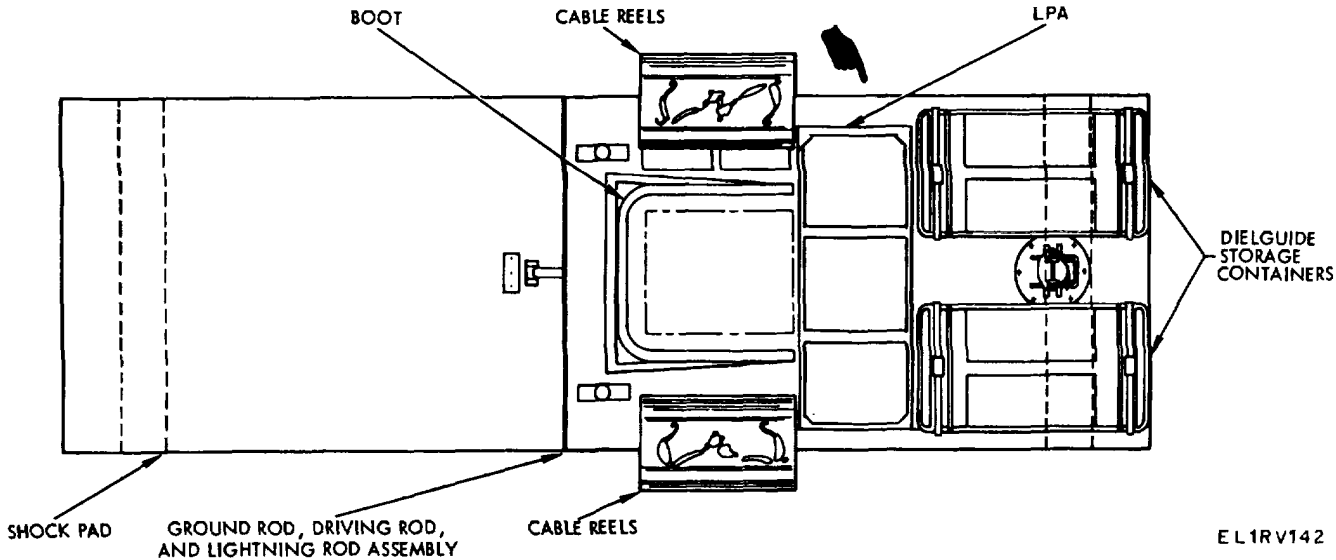
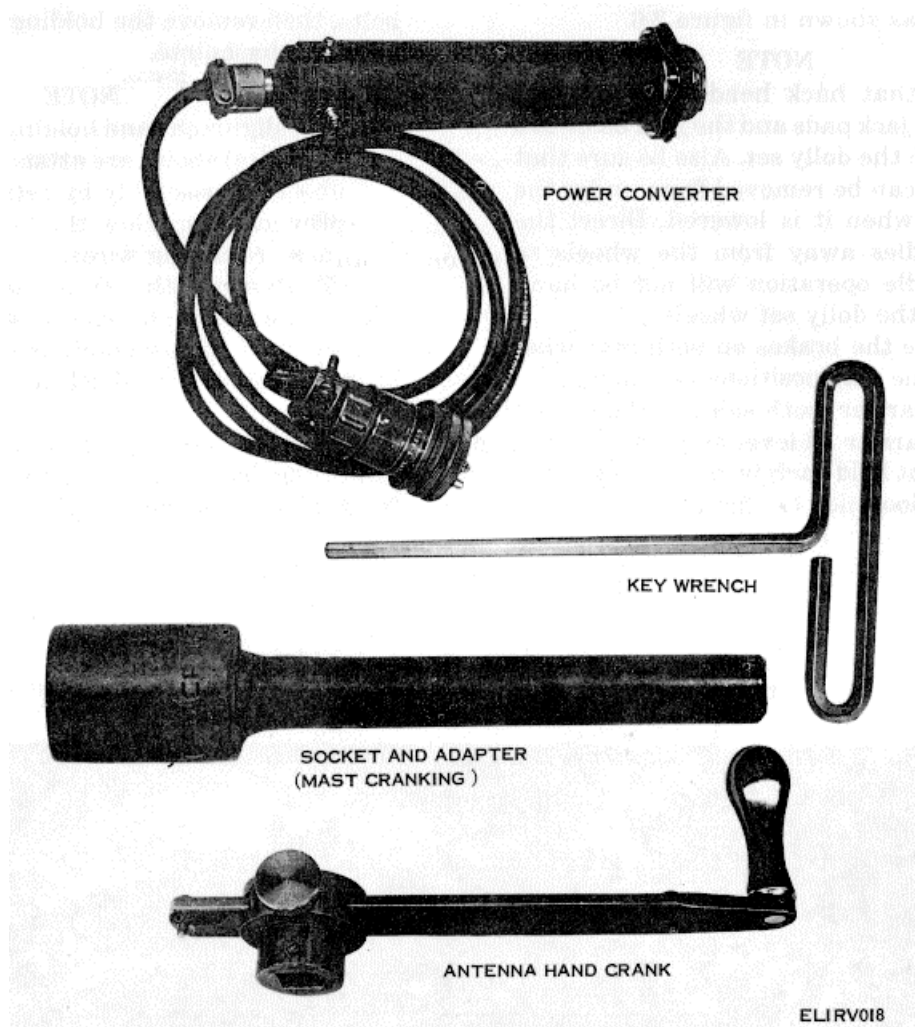

Figure 2-3. Change 1 2-4
Figure 2-4. Special tools required for antenna group installation.
a. The AN/TSC-54 is self-contained; therefore, all tools, test equipment, and materials required for installation are carried with the terminal. These items are stored in transit cases, storage compartments, or are secured in mounting fixtures on the units. The antenna-receiver-transmitter out-rigger assemblies are shipped with the equipment shelter. All other items required to install the antenna are stored with the antenna group. Figure 2-3 shows the storage arrangement on the antenna group and figure 2-4 shows the special tools that are required for installation.
lines on figure 2-3 show the functional position of the two shock pads. Position the shock pad with its honeycomb side facing up.